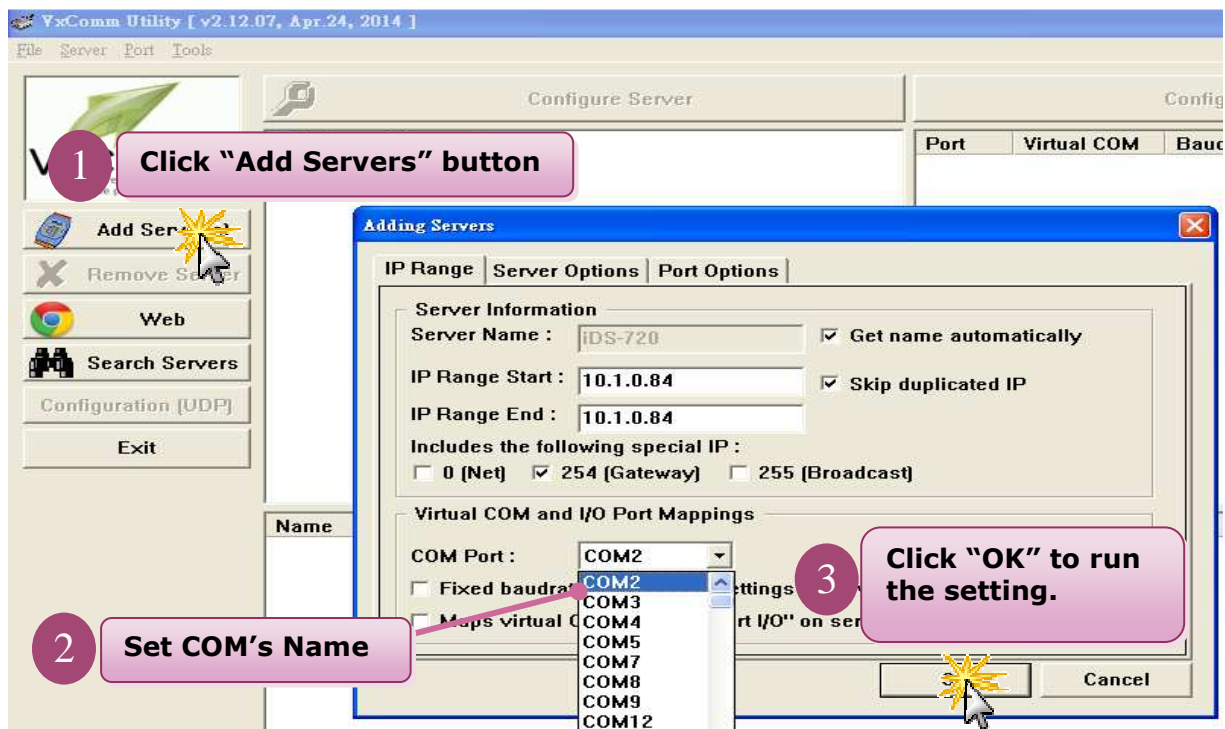

Fig 4-3
2. Click the **"Add Server[s]"** button to connect to the iDS-700, then user assign a COM Port number and click **"OK"** to save your settings, please refer to Fig 4-3.